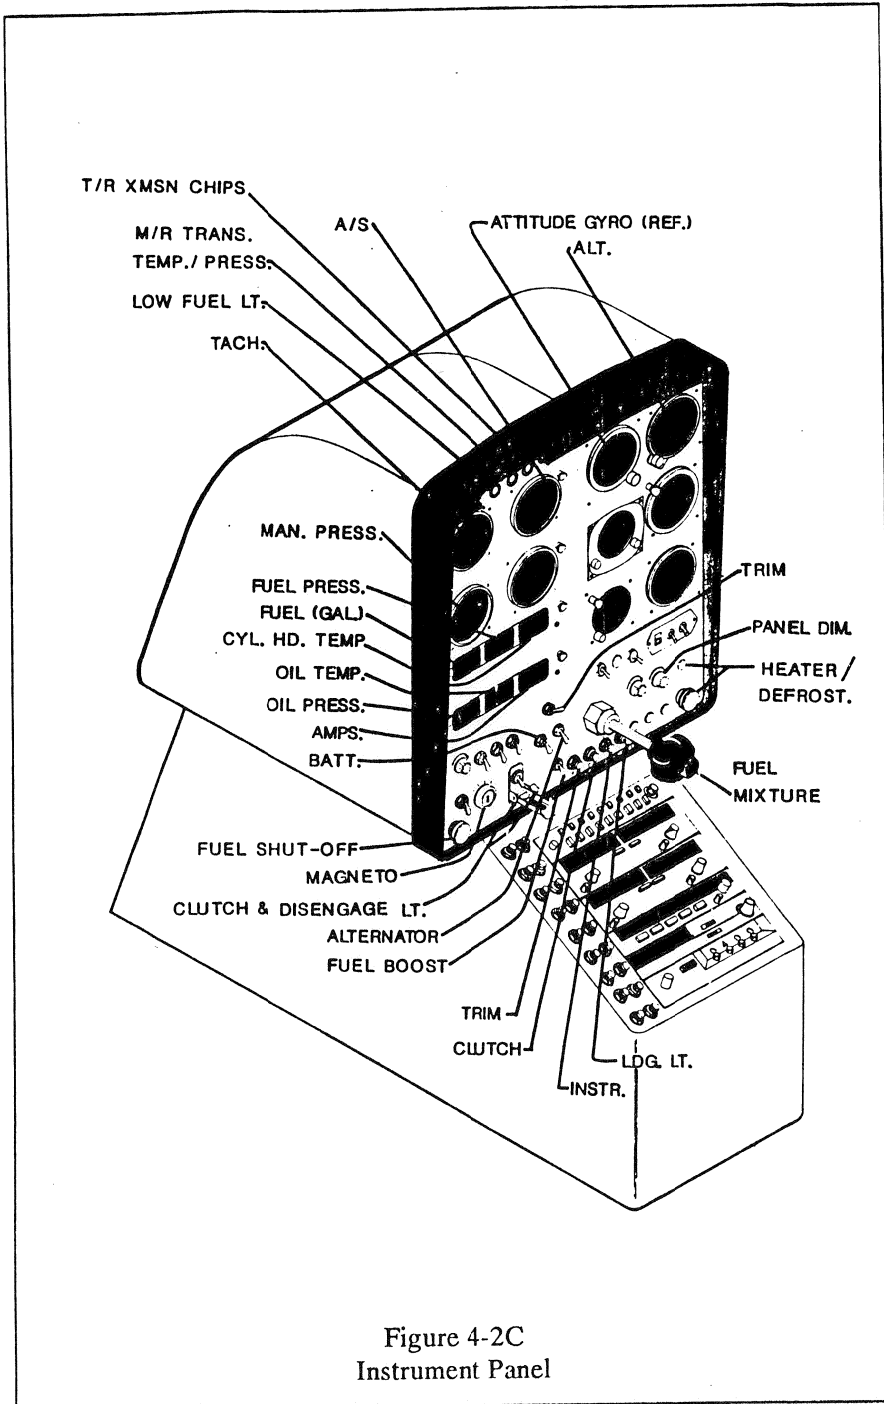

Figure 4-2C
Panel Configuration "C" (Figure 4-2C) is designed for maximum avionic capability with a full center console. The installation of this panel limits aircraft total occupancy to a maximum of two persons.
2. Helicopters equipped with Panel Configuration "C" (Figure 4-2C) are approved for operation with a maximum of 2 occupants.